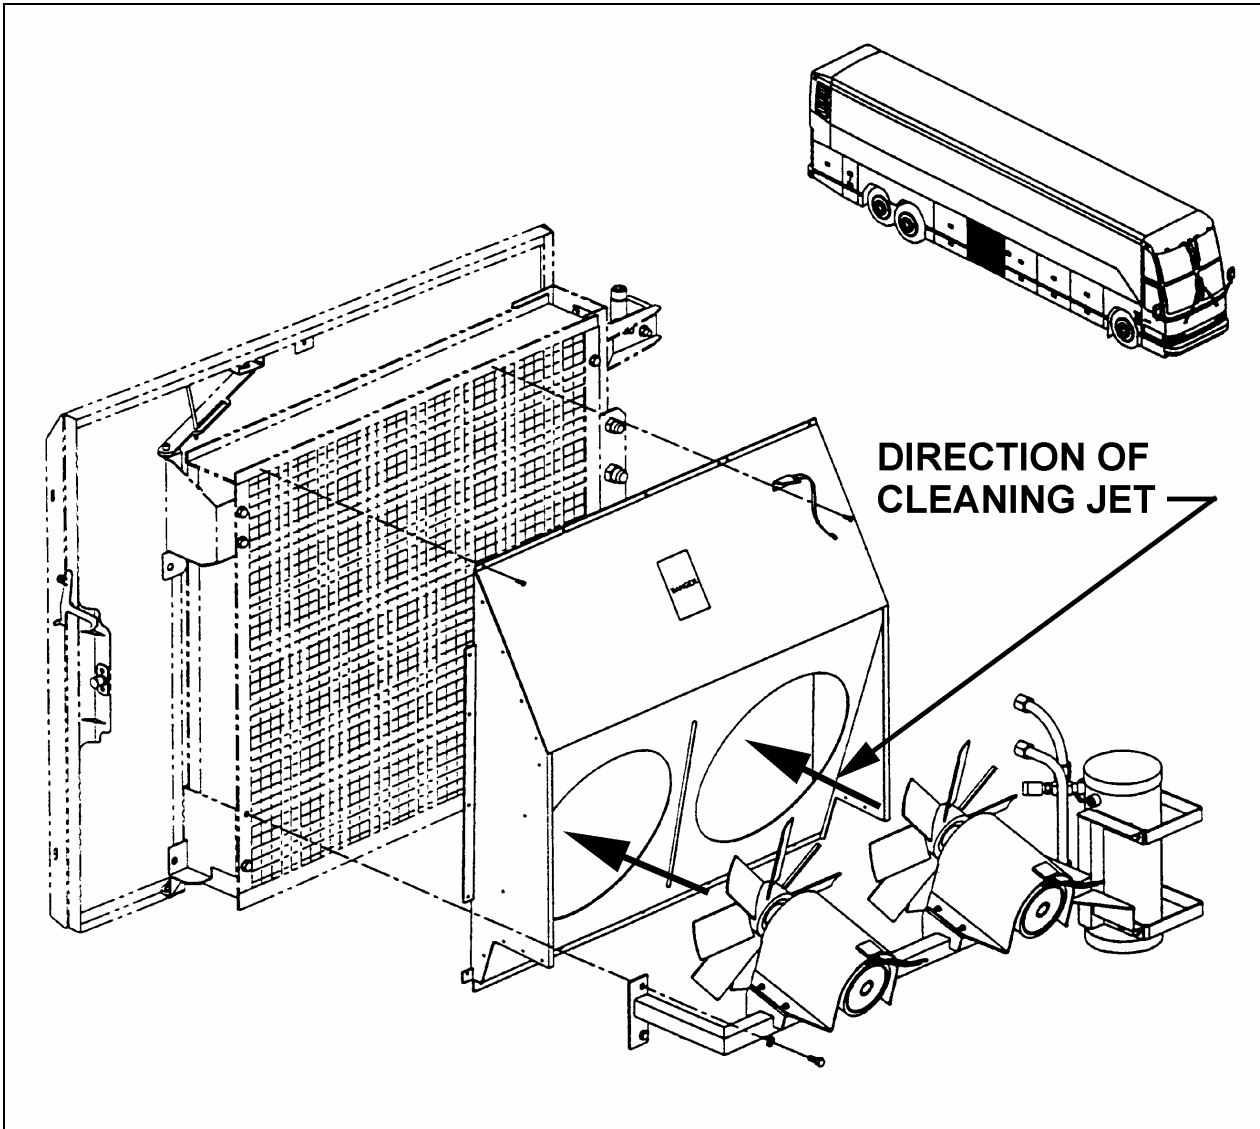

FIGURE 1 : DIRECTION OF JET FOR CONDENSER CLEANING
2. Flush the condenser coils from inside out, using a water jet or water mixed with air under pressure. Direct the pressure straight through the coils and parallel to the fins to prevent bending of latter. Refer to figure 1.